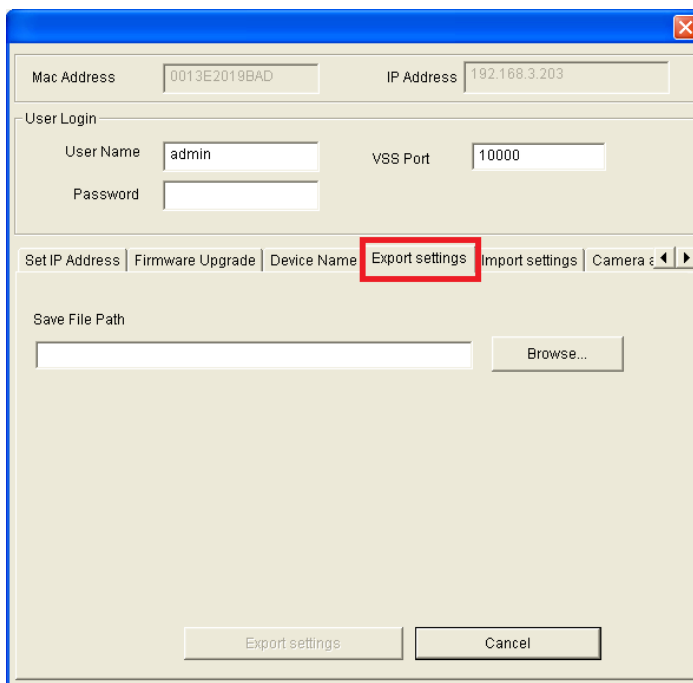

Figure 5-3
1. In Figure 5-3, click the **Import Settings** tab. This dialog box appears.